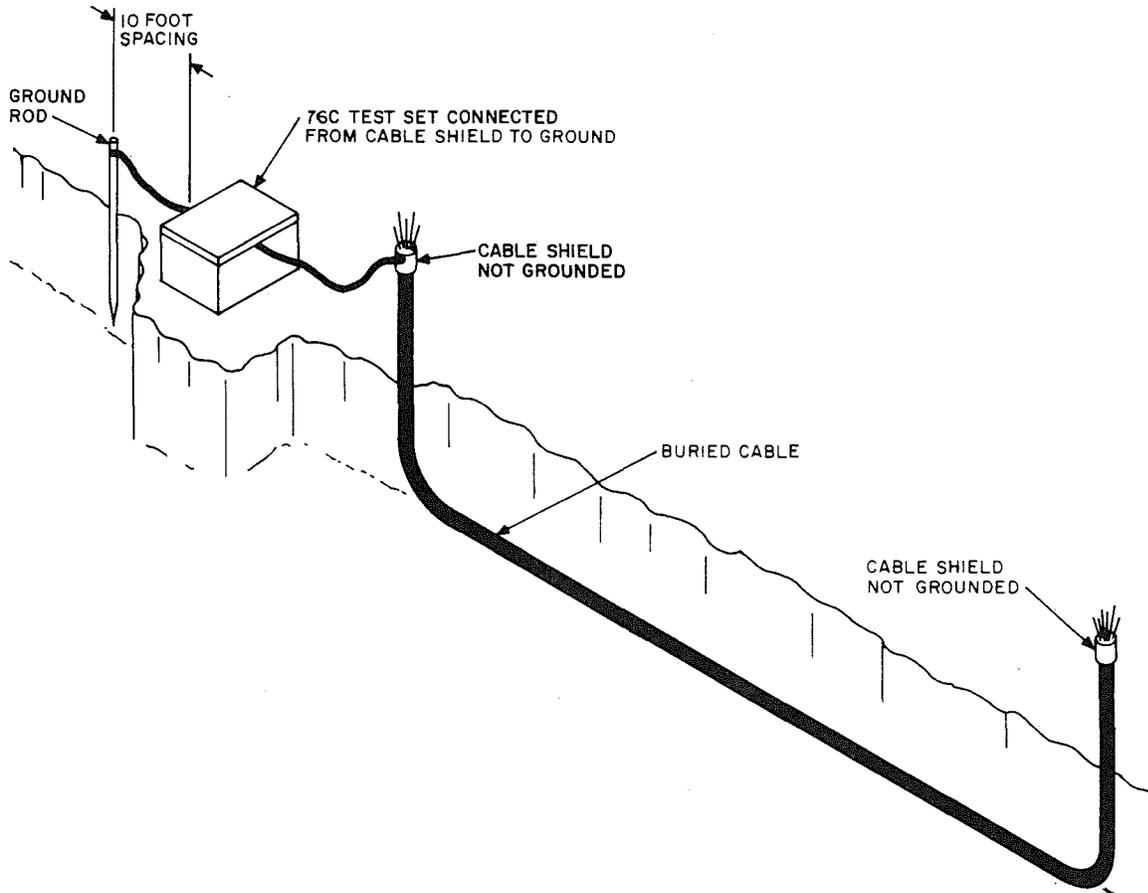

Fig. 8—Isolating Shield of Cable From Ground
- 5.01 Attach the test equipment to the cable as outlined in 4.01 through 4.04(5). The shield of the buried cable to be located shall be **isolated from the ground at both ends of the span** (Fig. 8).